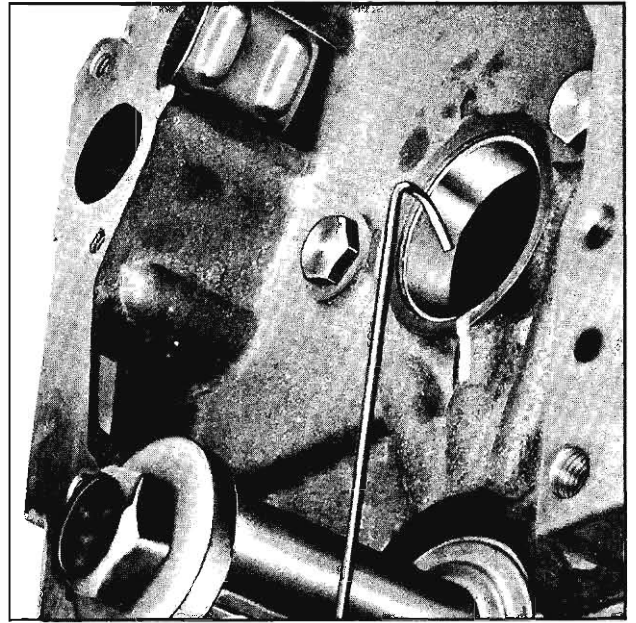

Fig. 3-448 Checking No. 1 Cam Bearing
6. Use BT-6409-9 to check all oil hole openings. Wire must enter hole or the bearing will not receive sufficient lubrication. (Fig. 3-448)